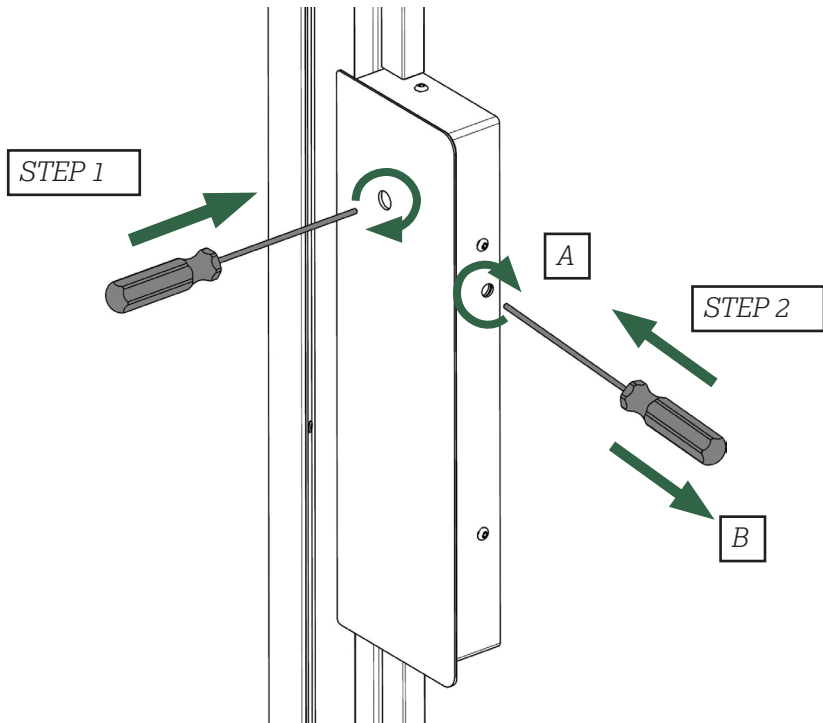

Figure 11.
- Insert the tool as shown (*Figure 11*) and engage the tip of the tool in the socket inside the lock box.